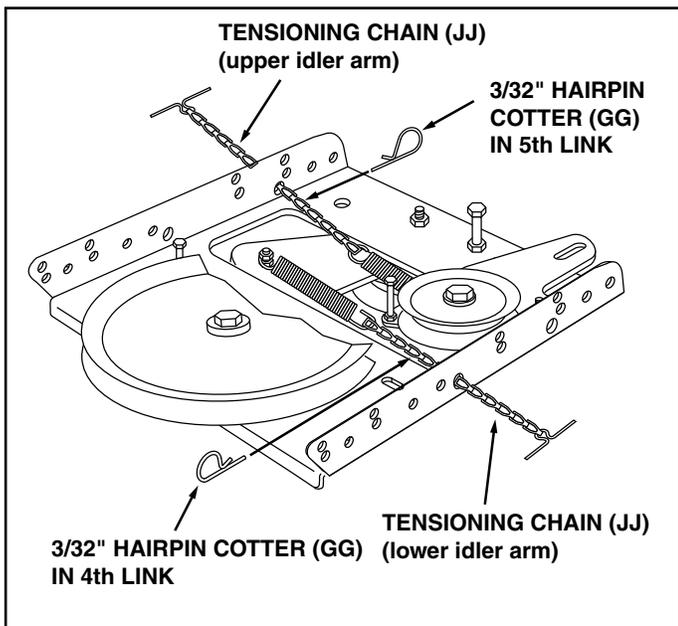

FIGURE 42
STEP 42: (SEE FIGURE 42)
- Insert tensioning chains (JJ) through the holes shown and attach to the springs on the upper and lower idler arms.
- Install a 3/32" hairpin cotter (GG) in the 5th link of the chain attached to the upper idler arm.
- Install a 3/32" hairpin cotter (GG) in the 4th link of the chain attached to the lower idler arm.